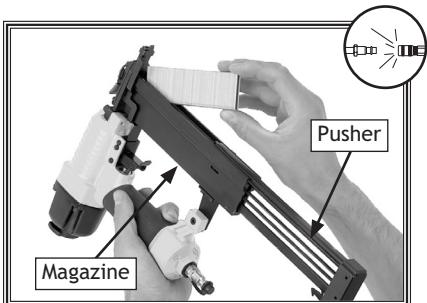

Figure 4. Loading staples into magazine.
3. Point the stapler up and insert a stick of staples, pointed-end up, into the bottom of the magazine, as shown in Figure 4. Make sure that the pointed ends of the staples point in the same direction as the stapler nose piece.